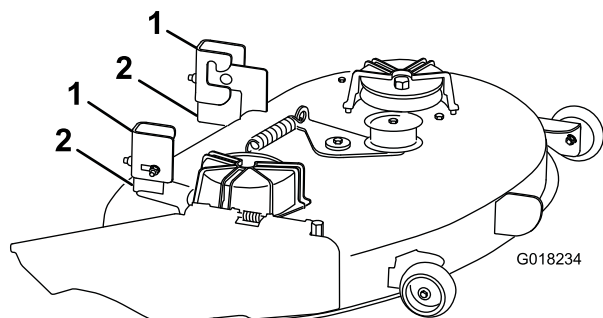

Figure 1
3. Remove the existing hanger brackets from the deck brackets (Figure 1).